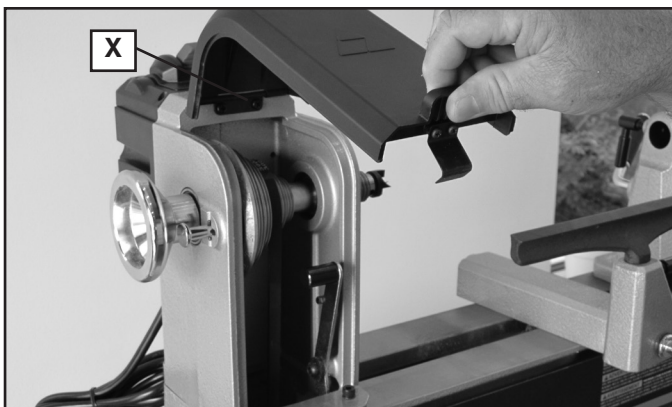

Fig. 29
1. Lift up pulley cover (X) Fig. 29.